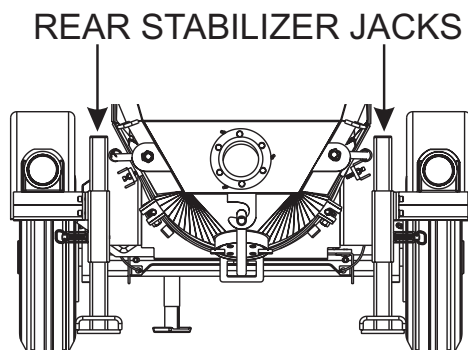

Figure 17. Locating Rear Stabilizer Jacks
1. Locate both the left and right rear stabilizer jacks (Figure 17).